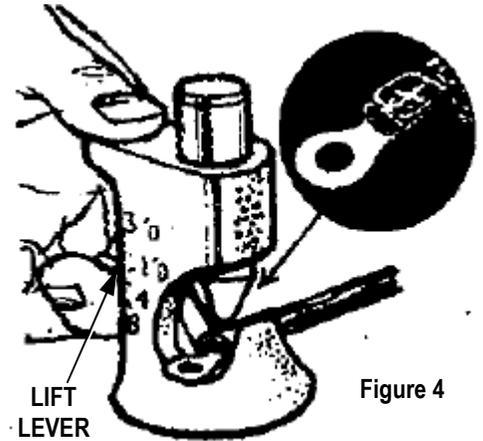

Figure 4
- Lift the ram by pulling up on the lift lever and removing the crimped assembly. For butt splices repeat this procedure on the opposite side of the barrel. See Figure 4.